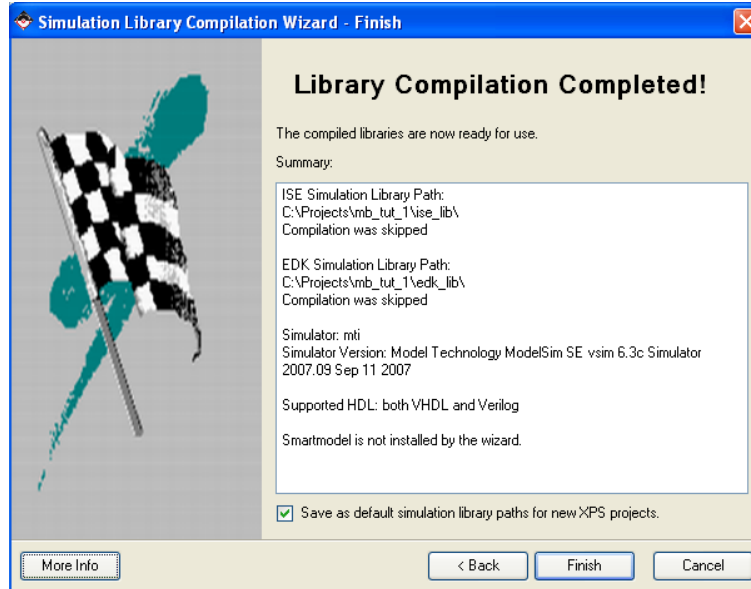

Figure 13: Simulation Library Compilation Wizard - Summary
- The wizard now will show the summary screen (Figure 13). This window shows the details of the compilation process. Now the simulation library building is complete and we are ready to simulate